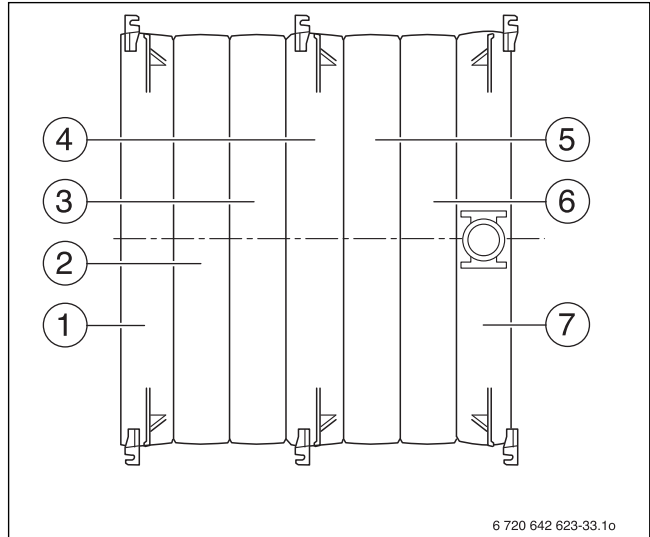
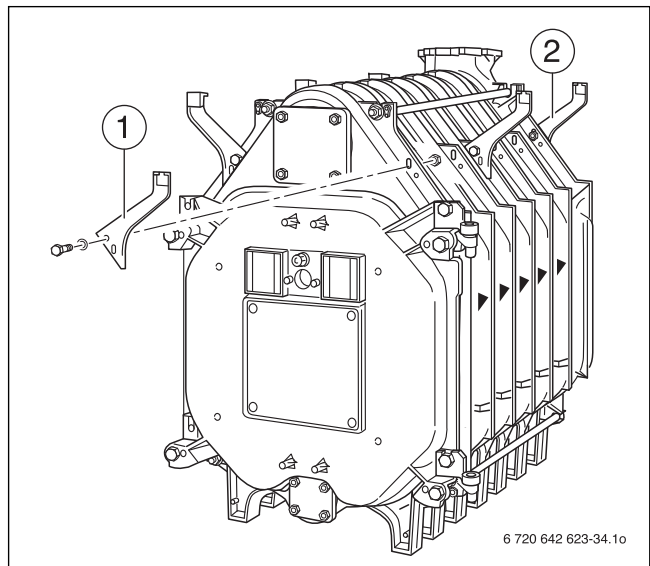

Fig. 35 View from above: boiler block (7 boiler sections) with brackets
Fig. 36 Installing the mounting brackets
- ▶ Loosely screw the brackets for the boiler jacket onto the upper ribs of the boiler sections on the left and right (→ Fig. 35, Fig. 36 and Tab. 12).
- ▶ Screw the brackets on the rear section (→ Fig. 36, [2]) to the ribs from behind.
- ▶ Screw the brackets of the front and intermediate sections (→ Fig. 36, [1]) on from the front only.